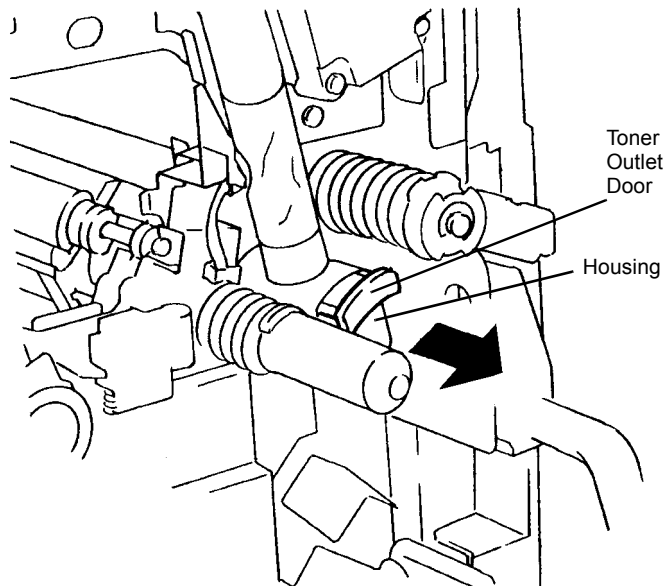

Figure 1 Closing Toner Outlet
6. Prepare to remove Toner Transport (Figure 1).